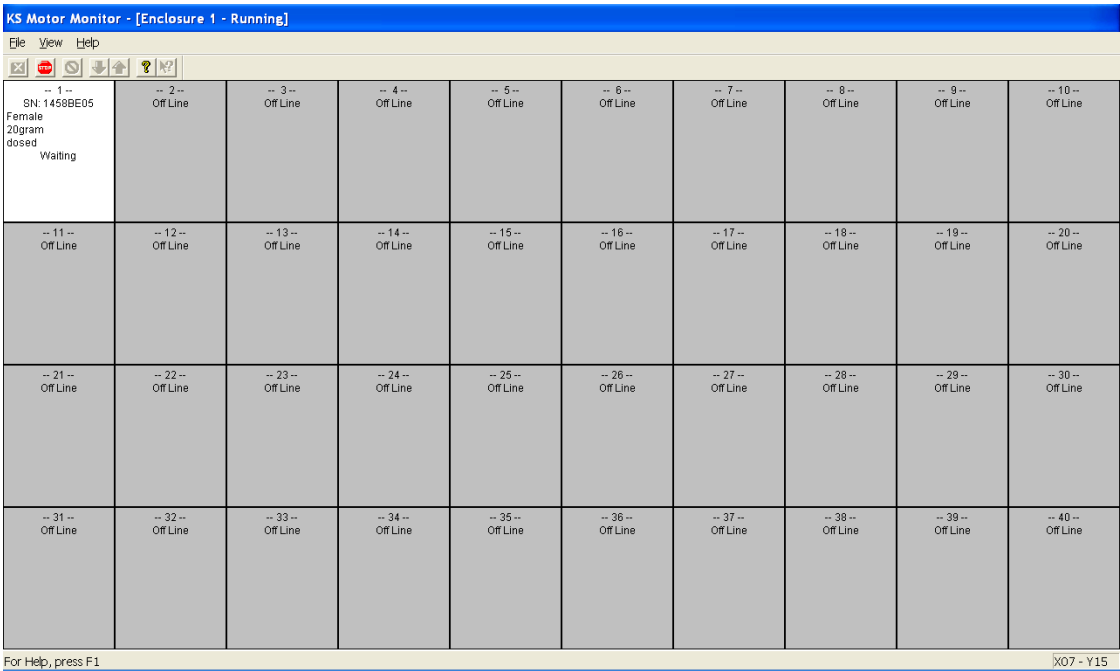
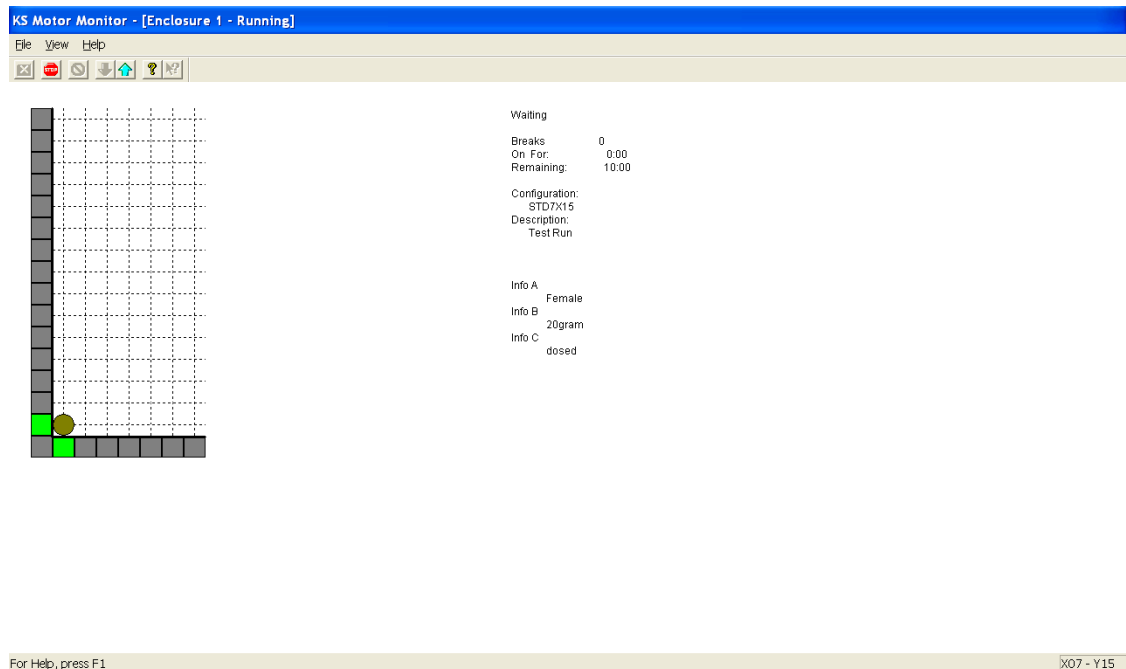

Figure 2-8. Upper-Level Runtime Screen
Figure 2-9. Lower-Level Runtime Screen
17. Next, the upper level runtime screen (Figure 2-8) will appear on the display. The upper level runtime screen provides the status for each enclosure. One enclosure was used in this example.
18. Refer to Figure 2-8 and double-click on the white backlit field. The lower-level runtime screen will appear similar to the one shown in Figure 2-9. You can modify the appearance of this display from the selections on the **View** menu by selecting **Show Grid** and/or **Show XY-Sw. Centroid, Points** and **Oval** are used to modify the appearance of the circle that represents the test subject. Take some time and activate each of these during a session to see how each one changes the display. These tools do not change the data in any way; they simply provide alternate views of the subject's movements during runtime. The tan dot in the lower left represents the animals' current centroid, i.e., the calculated center of the animal based on all beams broken. The green squares represent each x and y beam currently blocked.